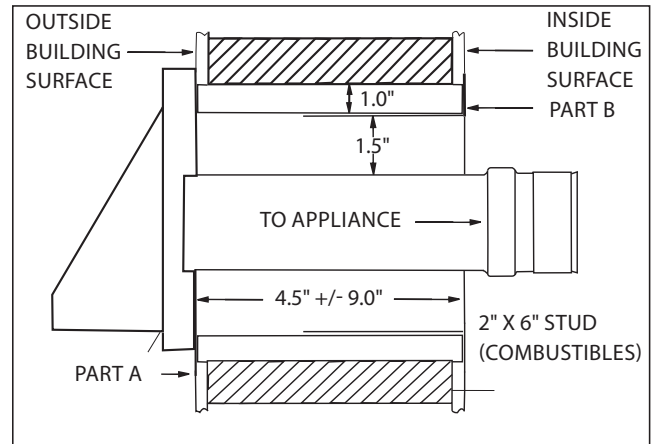

Figure 19
2. Determine the location and cut an opening for the wall thimble (refer to Figure 19).